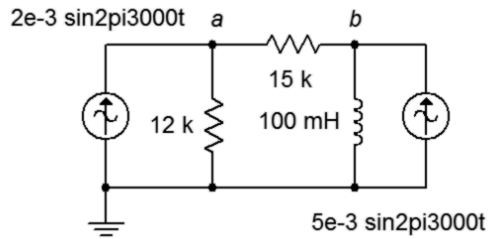

Figure 6.13
25. Given the circuit in Figure 6.13, use nodal analysis to determine v_{ab} .
26. Use nodal analysis to find the current through the 100 mH inductor in the circuit of Figure 6.13.